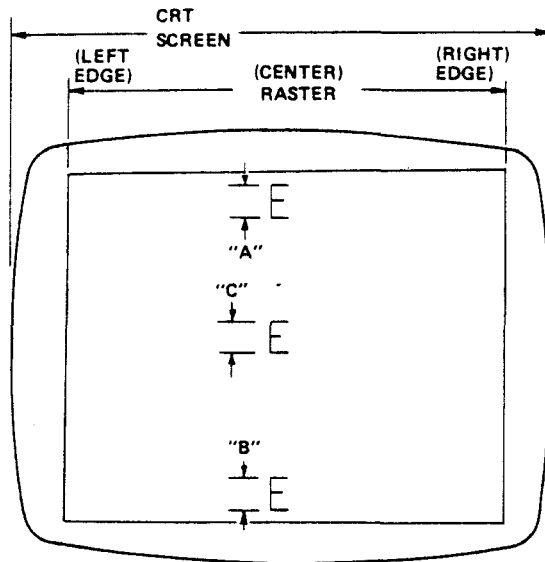

Figure 7. Partial CRT Display of Characters for Vertical Linearity Adjustment
Step 2. (Refer to Figure 7.) Adjust the Vertical Linearity control (R315) until the extreme top and bottom characters (designated "A" and "B") are equal in height to the center characters (designated "C").
Step 3. (Refer to Figure 7.) Adjust the Vertical Linearity control (R315) until the extreme top and bottom characters (designated "A" and "B") are equal in height to the center characters (designated "C").